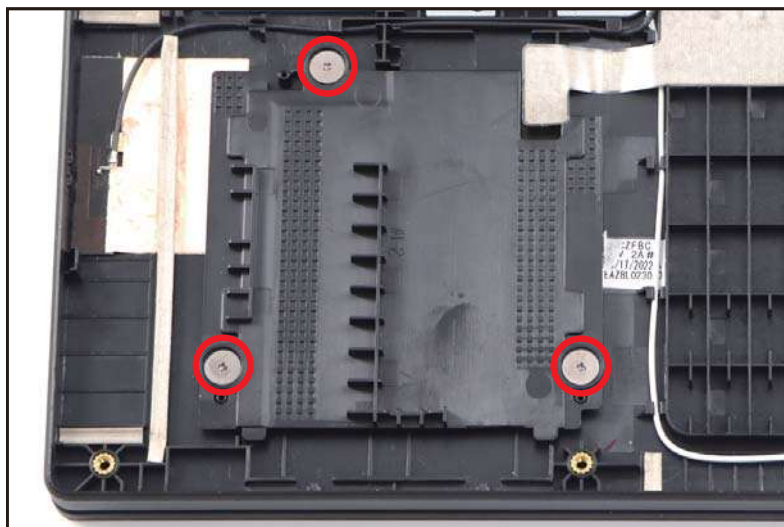

Figure 3-119. Replacing the Smart Card Reader Holder
2. Install and secure three (3) screws to the smart card reader holder (Figure 3-119).